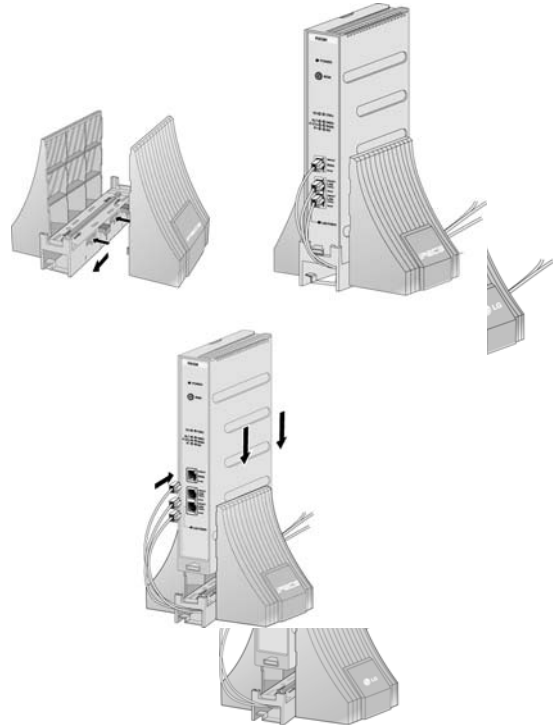

Figure 3.2.1 WHLD/DHLD Installation
- 2) Assemble the WHLD or DHLD, refer to Figure 3.2.1, and mount the LDK-RSG in the holder mounting kit.
As depicted in Figure 3.2.1, assemble the WHLD/DHLD and mount the LDK-RSG in the WHLD or DHLD.
To mount the LDK-RSG on the WHLD, push the LDK-RSG in the direction of the arrow as shown in Figure 3.2.1(a). When you remove the LDK-RSG from the WHLD, pull the Ejector on the bottom of the front panel.
In case of the DHLD, combine the pieces of the DHLD as shown Figure 3.2.1(b), and then insert the LDK-RSG from top position.